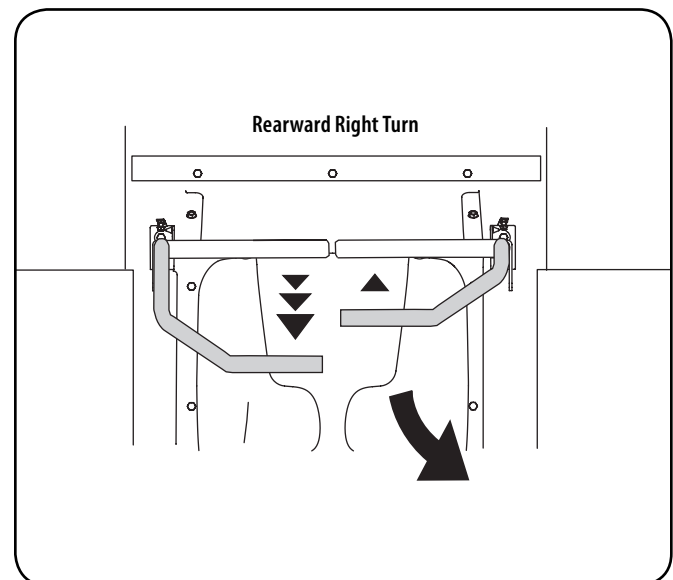

Figure 16
2. To turn to the right while traveling in reverse, move the right drive control lever forward of the left lever. See Figure 16.